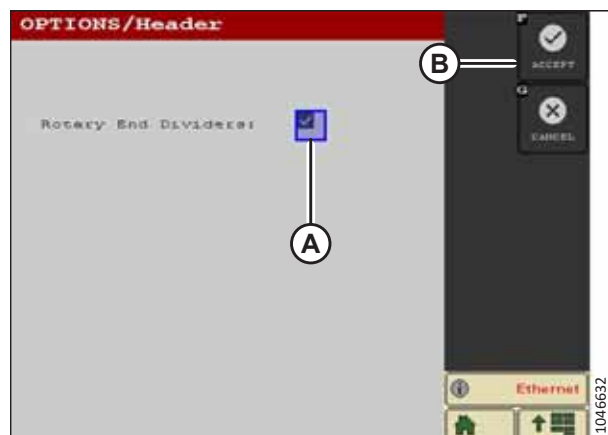

Figure 3.26: FlexCorn™ Options Setup
Do **NOT** control the REDs using the check box in Figure 3.26, page 44. Always use REDs ON/OFF switch (A) from the FlexCorn™ RUN page.